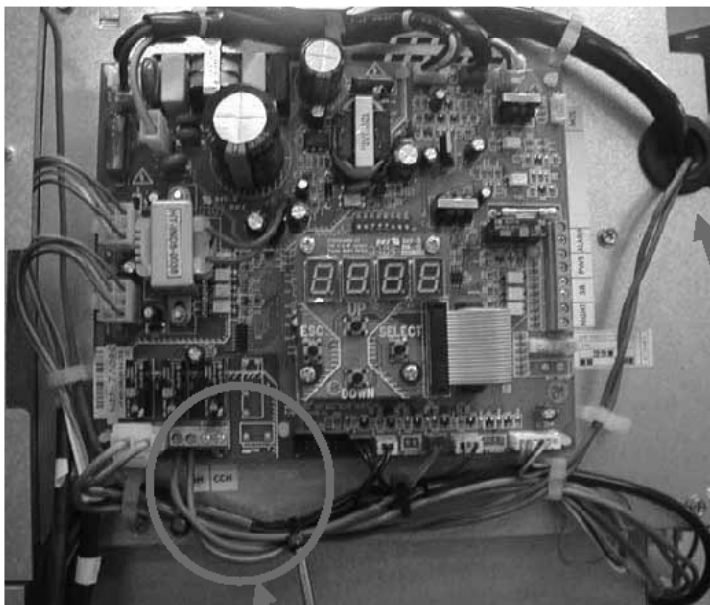

Figure 1
2. Connect the base heater wires to connections marked as "BH" on the main controller (refer to Figure 1).
3. Route the wires into the cable holders and through the grommet and attach the wires with strips to other wires as per Figure 1 & 2.